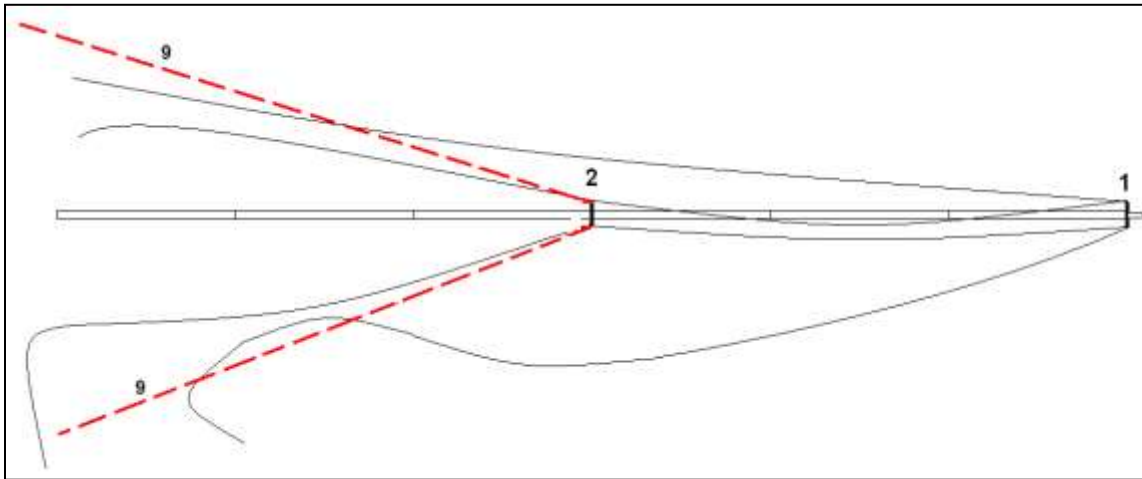

Figure 2. Assembling six sections on the ground.
Assemble a maximum of 6 mast sections laying on the ground as shown in Figure 2 and thread the loops wires (solid-thin) through the top two guy/wire rings (1 and 2), tie the four 32 ft guy ropes (dashed- thick and red if printed in colors) to the number two ring (2). There should be three mast sections between 1 and 2, and three below 2 (to the left of 2 in the figure above). Slide enough wire so the loop closing splice will be no more than 5 ft (1.52 m) from the mast to allow room for the coupler to slide on the loops wires while adjusting the antenna. (Pull enough wire from the top ring (1) along the mast and beyond to have no more than the length of the nine sections)